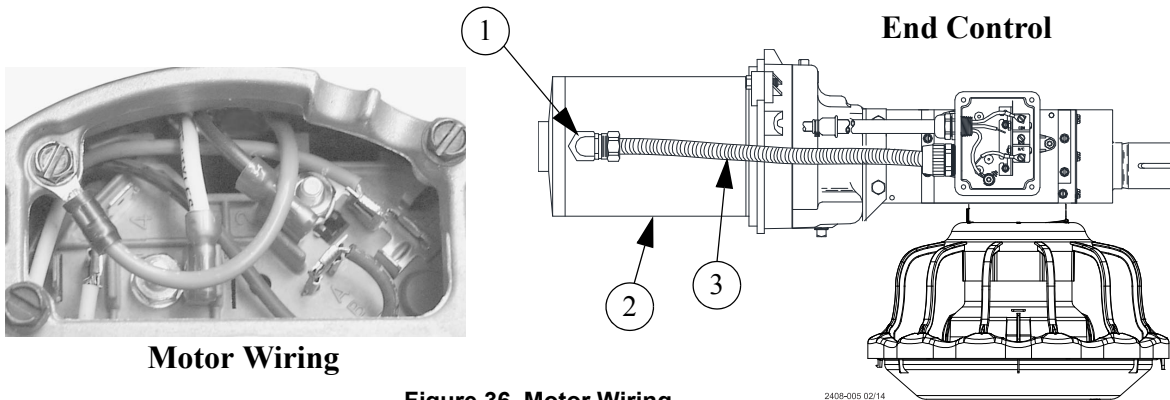

Figure 36. Motor Wiring
8. Install the Metal Water Tight Connector (**Item 1**) in the Feed Line Motor (**Item 2**). Cut the Flex Conduit (**Item 3**) to length. Slide the wires from the end control through the Flex Conduit (**Item 3**). Install the Flex Conduit. Connect the wires to the Feed Line Motor (See **Figure 36**).